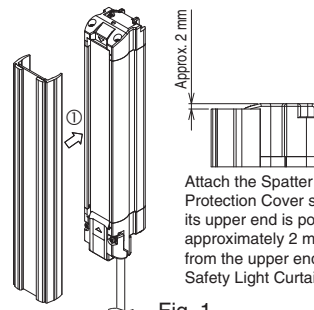

Fig. 1
- (1) Attach the Spatter Protection Cover to the Safety Light Curtain. (Fig. 1 ①)